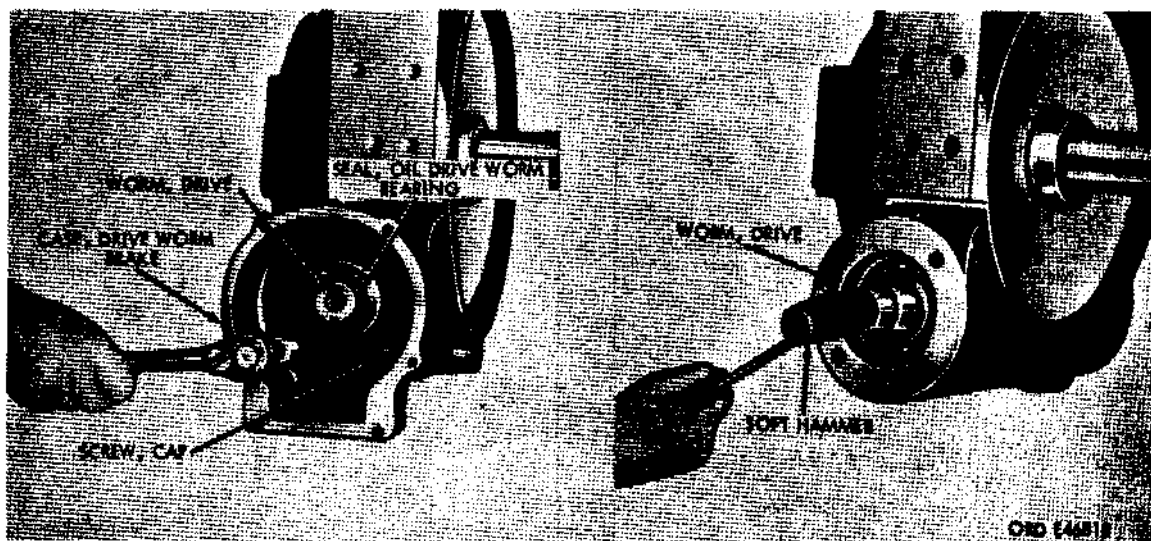
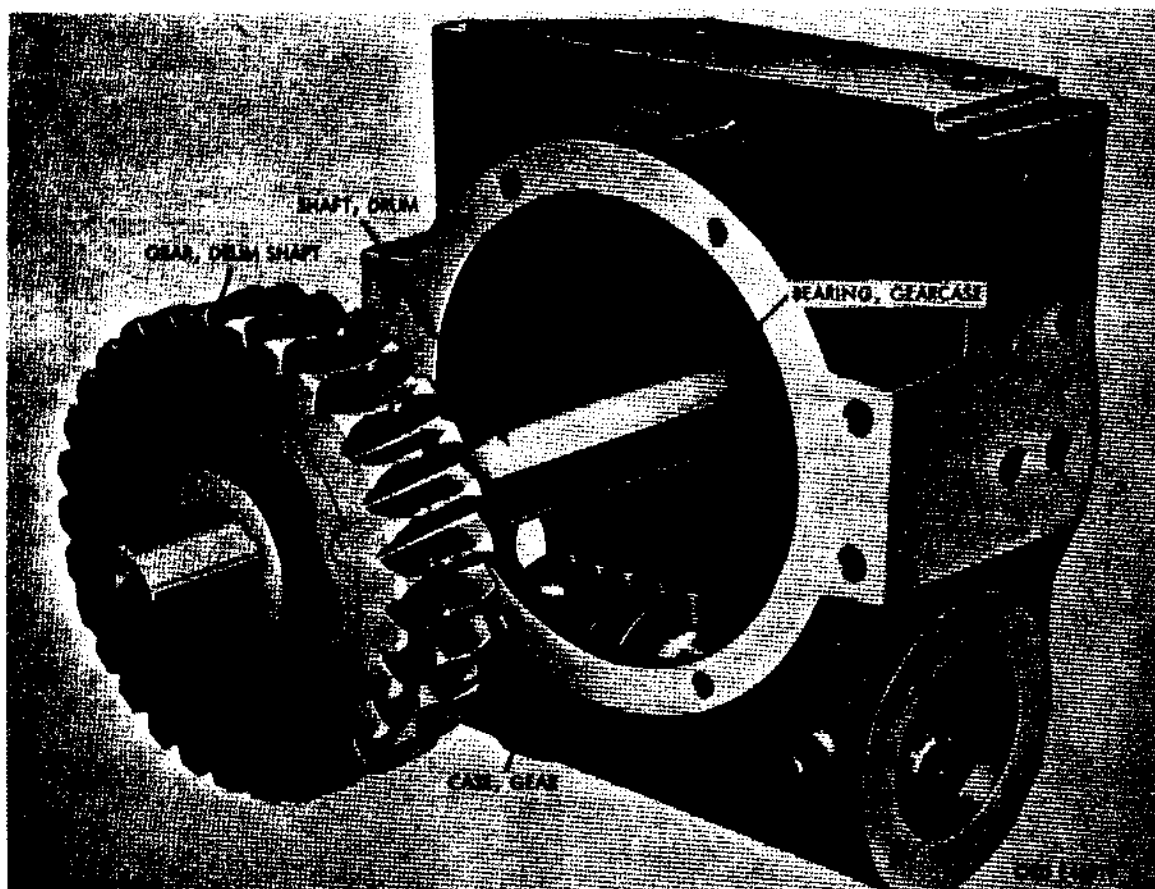

Figure 48. Removing drive worm brake case and freeing drive worm assembly
Figure 49. Removing drum shaft and gear assembly from case
- (f) Remove four cap screws and lockwashers and remove drive worm brake case (fig. 48) with drive worm bearing oil seal, and gasket.
(6) Drive worm and drum shaft assembly.
- (a) Using a soft hammer, tap drive worm (fig. 48) with bearings at drive worm brake end and drop drive worm in gearcase.
- (b) Pull drum shaft and gear assembly (fig. 49) from gearcase.
- (1) Press new gearcase bearing (fig. 49) in gearcase. Assemble drum shaft and gear assembly in position in gear housing.
- (2) Install ball bearing on tapped hole end of drive worm. Slide drive worm into gear housing and mesh drive worm thread with drum shaft gear (fig. 49) and tap bearing into position in housing. If oil seal in drive worm brake case (fig. 48) was removed, press new seal into place.